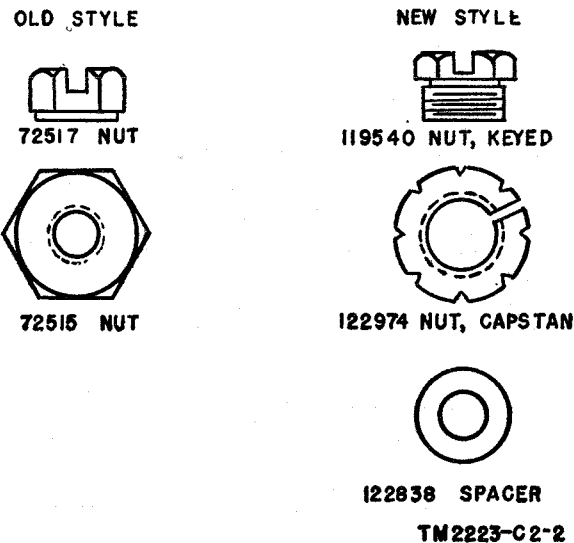

Figure 266.2 (Added) Selector clutch torque nuts.
- (1) On units up to and including serial No. 71306, the clutch torque may be adjusted by replacing the 72514 spring or by using shims between the 72515 nut and the spring. Shims are available under the following numbers: 96763 (.012 inch thick), 96764 (.016 inch thick), and 96765 (.020 inch thick).
- (2) Each unit starting with serial No. 71307 has an adjustable capstan nut (122974). To adjust the selector clutch torque, position the capstan nut (fig. 266.2).